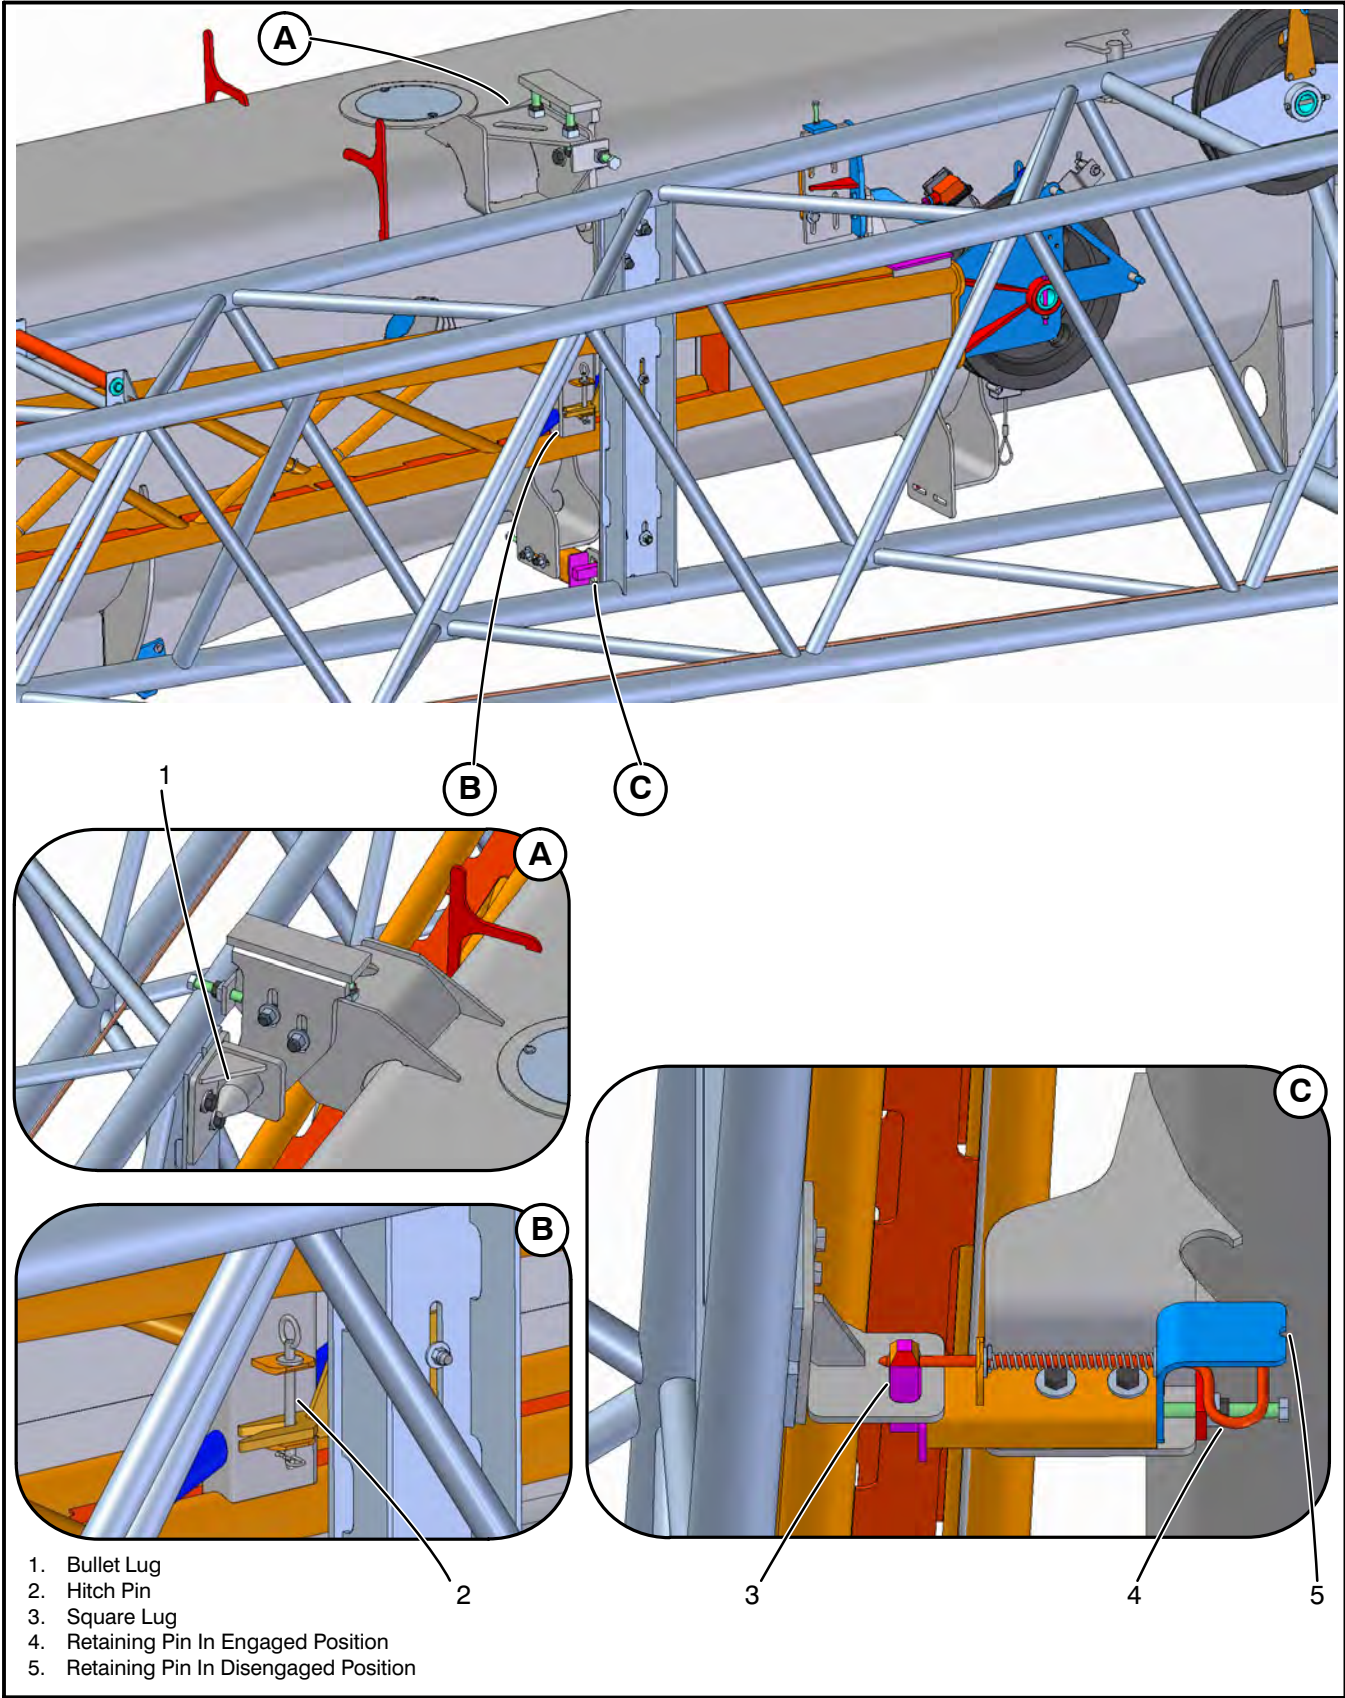

Figure 4-13
8. Check that the hitch pin (2) is installed through the lugs on the fly tip and base sections. Refer to Figure 4-13.
9. Pull the retaining pin (4) to disengage the pin from the square lug on the front storage bracket. Refer to Figure 4-13. Rotate and release the retaining pin to lock it in the disengaged position (5).